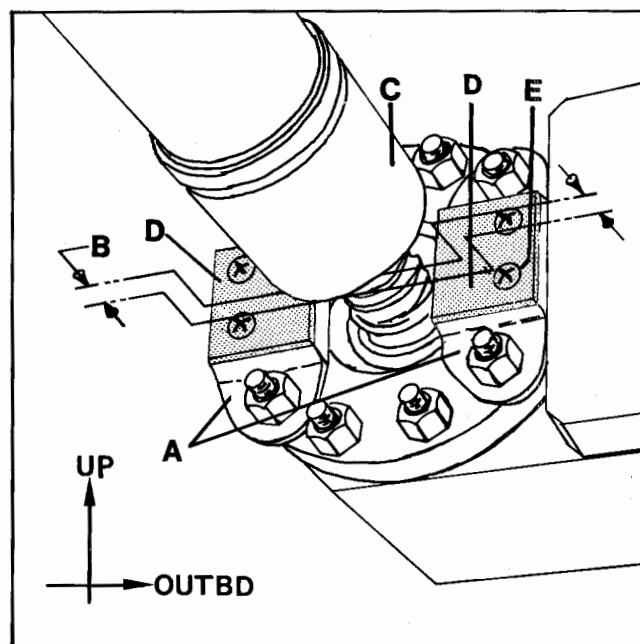

Figure 5-8. MECHANICAL DOWN STOP
16. Adjust the mechanical down and up stop per the following instructions and Fig. 5-8 and 5-9. Effective M20J S/N 24-0084 and S/N 24-0378 and on.
A. 560252-1, 560252-3, 560252-5, 560252-7, 560252-9. Use one down stop on each side as required (Pick up exist HDW) (Fig. 5-8).
B. With gear fully extended, select down stop of proper thickness to give .050 - .100 clearance between down stop and end of ball nut (Fig. 5-8).
C. Actuator Ball Nut (Fig. 5-8).
D. 560252-11 shim (use with 560252-9 only, max. of 4) (Fig. 5-8).
E. AN515-6R4 Screw * (Fig. 5-8).